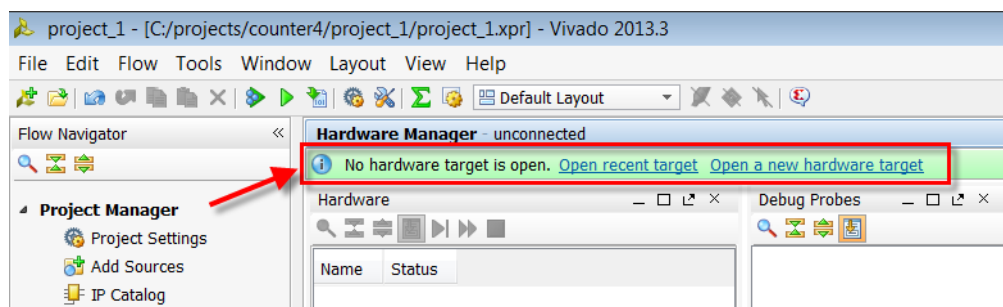

Figure 2-5: Using the User Assistance Bar to Open a Hardware Target
- Use the **Open recent target** or **Open a new hardware target** selections on the green user assistance banner across the top of the **Hardware Manager** window to open recent or new hardware targets, respectively (see Figure 2-5).